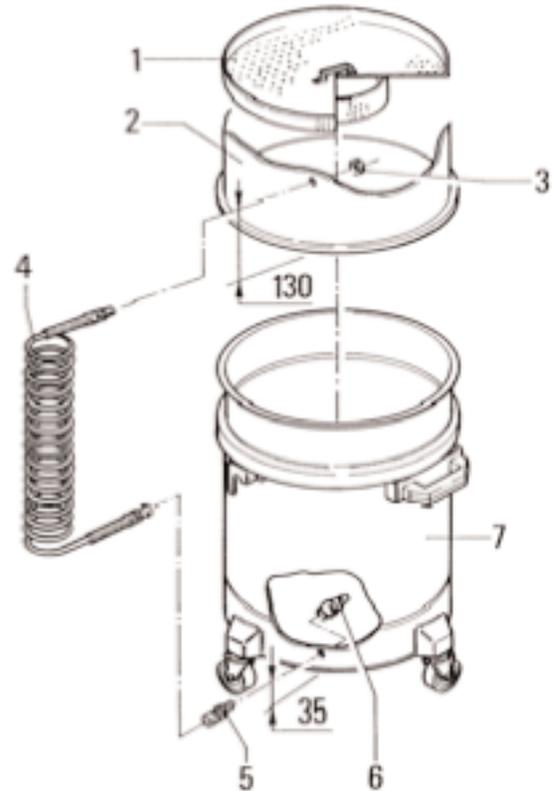

Fig. 6.10.4
6.10.4- Grate and bypass hose (fig. 6.10.4)